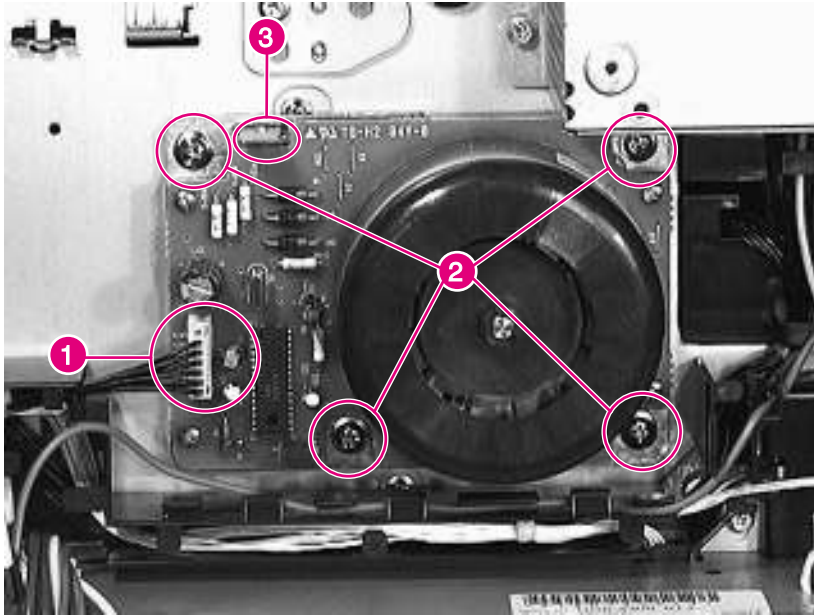

Figure 6-41 **Main Motor**
- Main Motor (see figure 6-41 on page 313)
- 3 Unplug the connector (figure 6-41, callout 1).
- 4 Remove 4 screws (figure 6-41, callout 2).
Align the Main Motor to the chassis with the locator tab (figure 6-41, callout 3) and the machined ring around the output shaft.